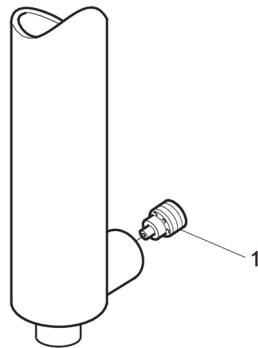

Figure 40. Hose rupture valve
- 5) Unscrew the hose rupture valve (item 1, see Figure 40, page 95) that is screwed into the cylinder.